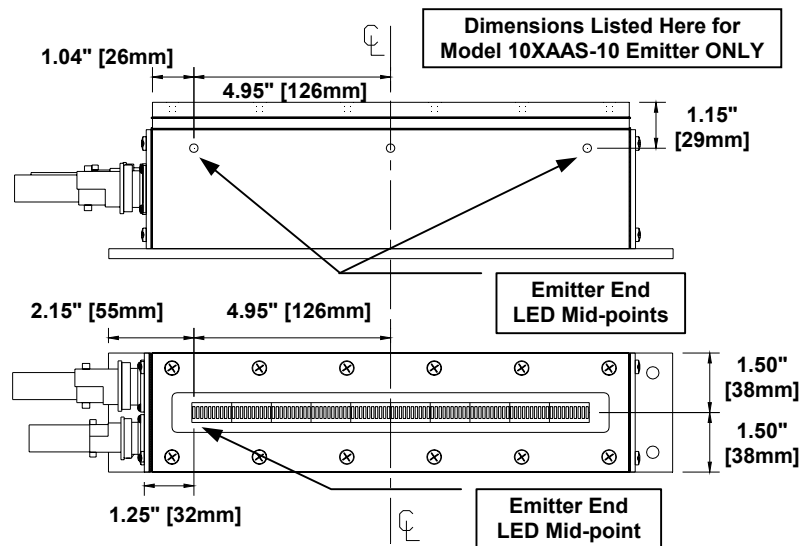

Figure C.4-10: Emitter End LED Location for Model 10XAAS-10 Emitter ONLY
1) Determine the mid-point of the emitter end LED {Figure C.4-10} nearest to the connectors (typically the end of the emitter facing the outer side of the line). If the emitter connectors are to face inward towards the centerline of the strip, determine the mid-point of the opposite emitter end LED. If not already marked from the factory, mark this point on the emitter housing side approximately 1.15 inches [29mm] from the top of the emitter face.